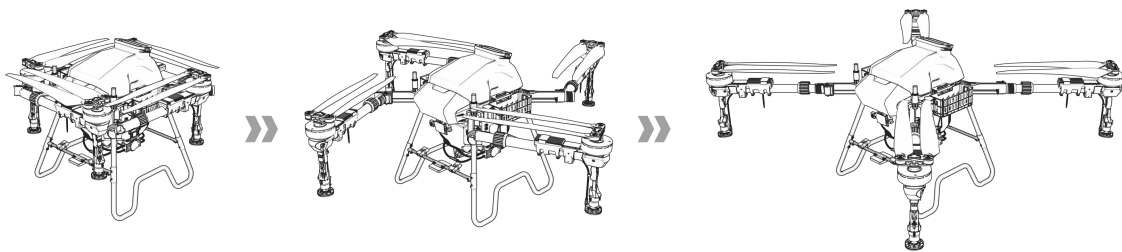

Figure 1-33 Arm Unfolding
Step 3: Unfold the arms. See Figure 1-33.